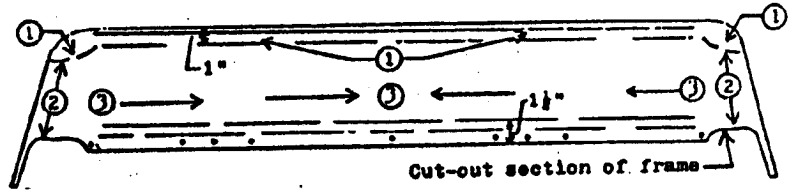
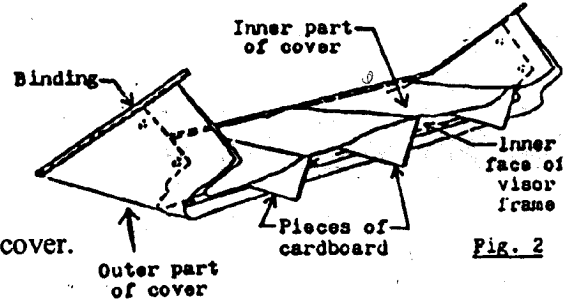

Fig. 1 - View of Inner Face of Visor Frame
Fig. 2
1. Slide the visor frame into the visor cover until the binding of the cover is tight against the front edge of the frame. Center the cover over the frame. Apply contact cement to the two front corners of the inner face of the visor frame and to the first inch of the inner front edge of the frame. (1, fig 1), and apply cement to the corresponding areas of the inside face of the inner part of the visor cover. Let the cement dry until it becomes tacky before pressing the cover down against the frame. Note: to keep the cover separated from the visor frame until you are ready to press the cover down, insert pieces of cardboard on edges between the frame and the cover (fig 2). Press the corners down first, and then do the rest of the front edge. Keep the binding tight against the edge of the frame at all times when installing the visor cover.
2. Cement the two sides from the bottom edge of the frame up to where the cut out section of the frame begins (2, fig 1). Again, keep cover separated from the frame with pieces of cardboard until the cement is tacky and you are ready to stick the cover down.
3. Apply cement to the last 1 1/2" and all across the rear edge of the frame (3, fig 1), to the corresponding area of the visor cover. After cement becomes tacky, pull back on the cover and press it down along the rear edge of the frame. Press first at sides then work in towards the center.